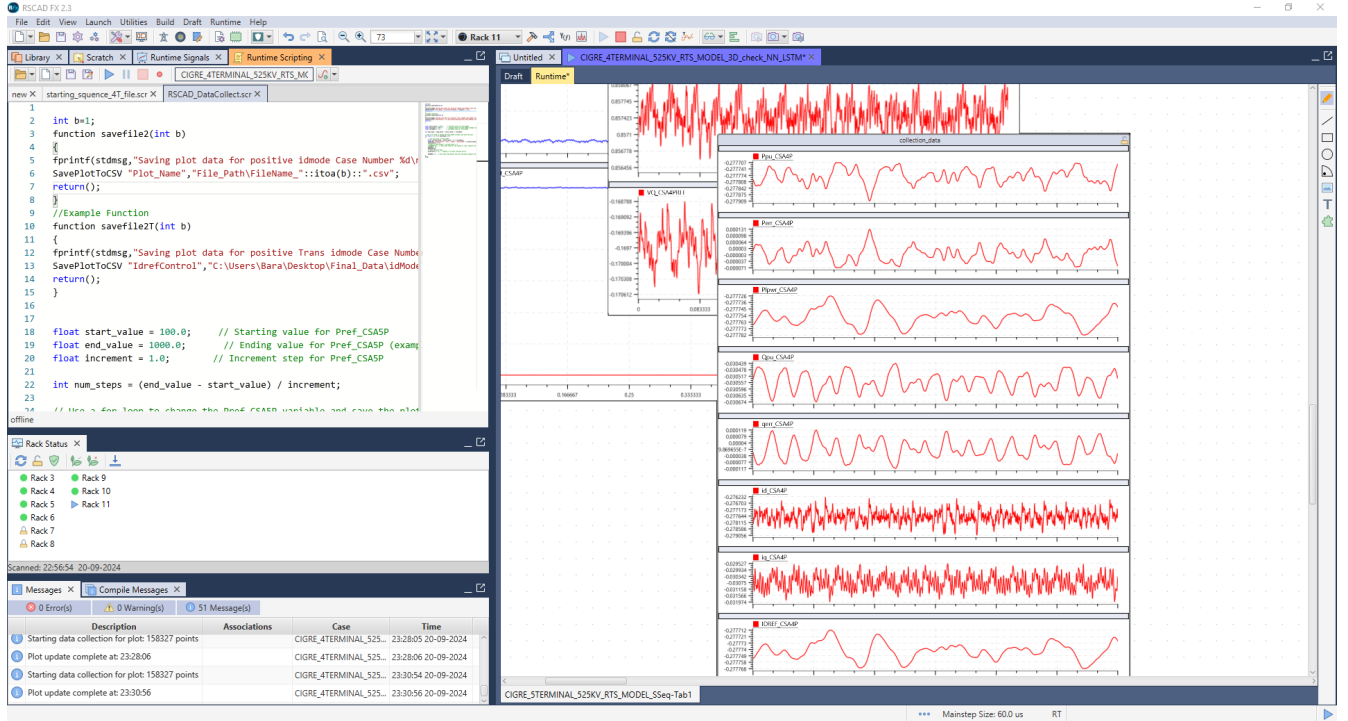

Figure 4.4: Collection of data plot.
1. Saving files: Get the Data from the runtime. Since the text converter in our case is CSA4, it is necessary in runtime to plot in a diagram AC current value, and its error, furthermore, active and reactive powers and their errors, and also outer voltage control PI input and output parameters. These parameters are: Ppu_CSA4P, Perr_CSA4P, PIpwr_CSA4P, Qpu_CSA4P, qerr_CSA4P, IQREFq_CSA4P, id_CSA5P, iderr_CSA4P, outpi1.t_CSA4P, iq_CSA4P, iqerr_CSA4P, outpi2.t_CSA4P. Rename the plots e.g. to ‘collection_data’ as seen in Fig. 4.4.